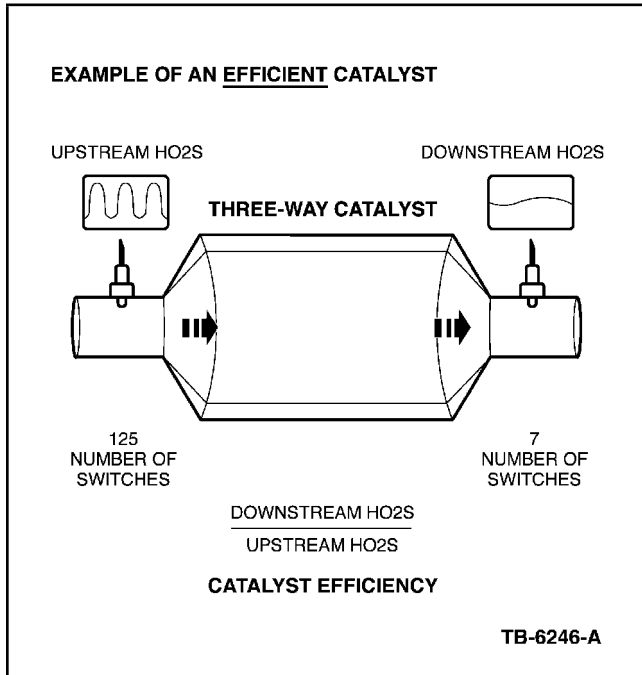

Figure 5 - Article 01-9-7
1. **Determining catalyst efficiency/switch ratio:** The upstream HO2S sensors will have a high switch frequency, due to normal closed loop fuel control. With an efficient catalyst, the downstream HO2S will have a low switch frequency. The switch ratio is determined by dividing the number of downstream switches by the number of upstream switches over a given period of time. As the catalyst ages (or if the catalyst is damaged or contaminated), the downstream switches will increase. When the downstream switch rate crosses a threshold value (approximately 0.75 switch ratio), a code is stored (P0420 and/or P0430) and the MIL illuminates (refer to Figures 5 and 6).